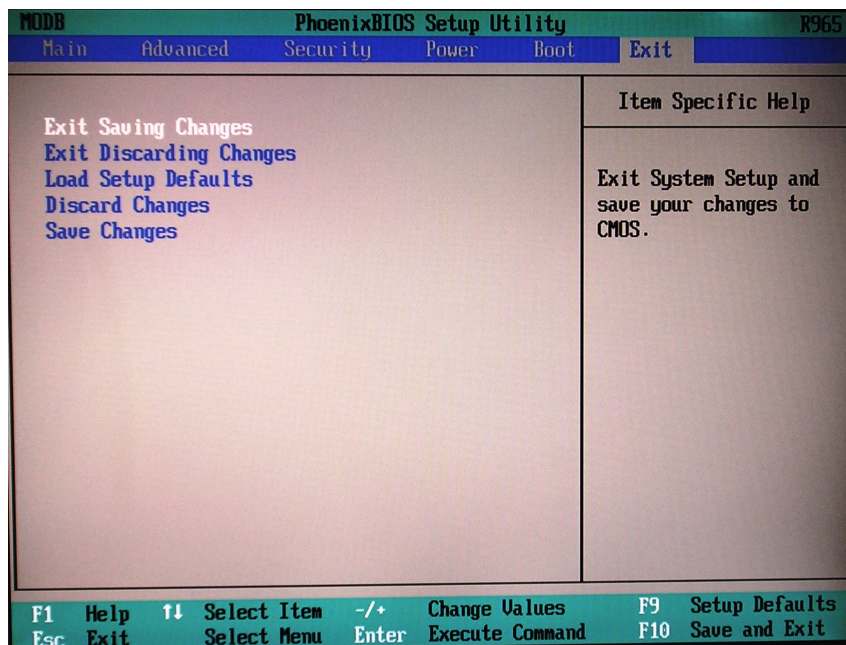

Figure 8-124 BIOS Exit Screen
11) Press <F10> to **Exit Saving Changes** as shown in Figure 8-124.